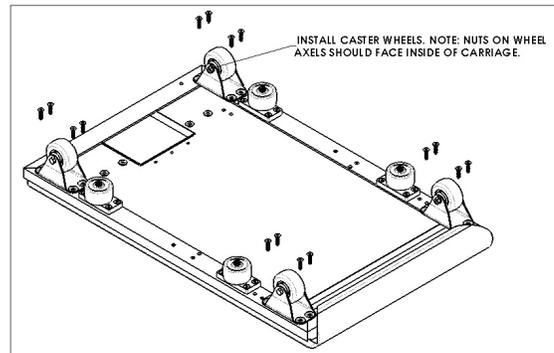

Figure 2
6. Starting with the rolling wheels, remove all 4 screws from the metal housing. Move this housing to the new carriage frame, keeping the same position and orientation as with the old carriage. The nuts on the axle bolt should face in towards the center. Install the screws back into the metal housing and tighten. Repeat for all rolling wheels. See Figure 2.